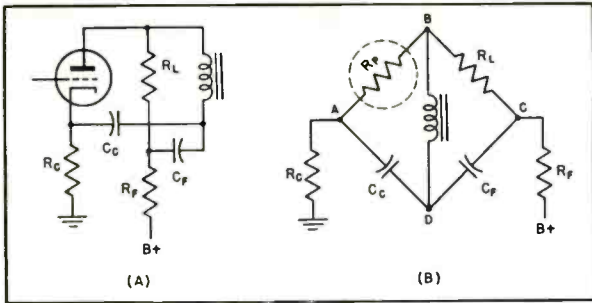

Fig. 5. Bottom-connected isolating capacitor (A), and rearrangement of elements in bridge form (B) to show hum balancing effect.
keep d.c. out of the transformer primary, with the capacitor C_3 isolating the plate voltage from the transformer. Normally it is considered more desirable to place the capacitor between the low end of the primary and the cathode, as shown at (A) of Fig. 5, since this arrangement constitutes a bridge which balances out hum components in the plate supply. Referring to (B), R_p represents the plate resistance of the tube, R_L the shunt-feed resistor, C_c the coupling capacitor, and C_d a decoupling capacitor. The hum component of the